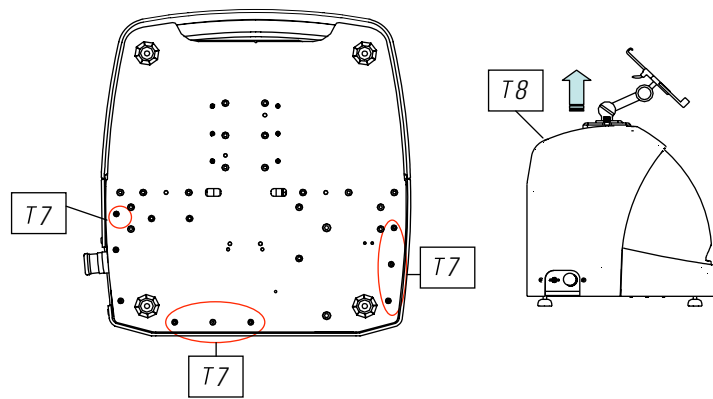

FIG. 21
- 3) Release 7 screws (T7) with a 3mm Allen key (Fig. 21)